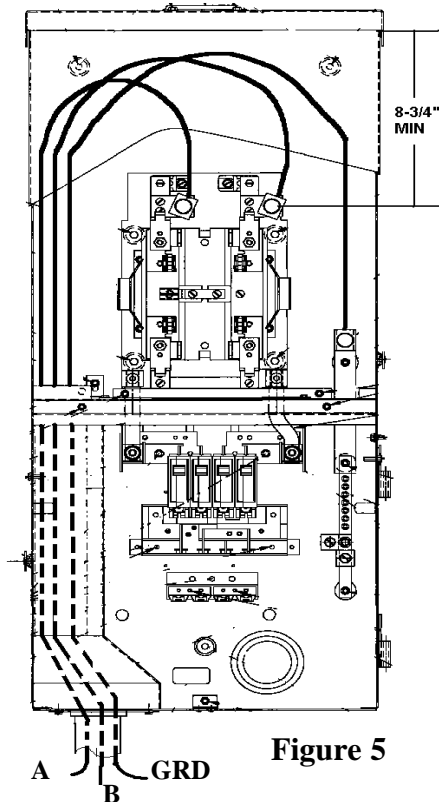

Figure 5
7. Wire mains and neutrals (Figure 5)